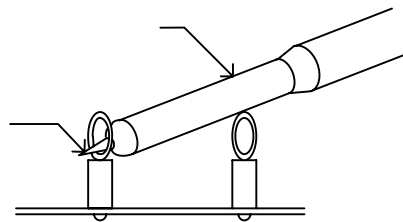

Figure 3: Probe position for ripple measurement
The input voltage source (V_{IN}) should be a 0-15V variable DC source capable of 5Adc. Connect V_{IN} to J2 as shown in Figure 3.
7. Remove oscilloscope probe jacket and position probe as shown below in Figure 3. TP17 and TP18 are implemented to provide the user with the means to achieve good noise immune measurements of ripple voltage and transient response.